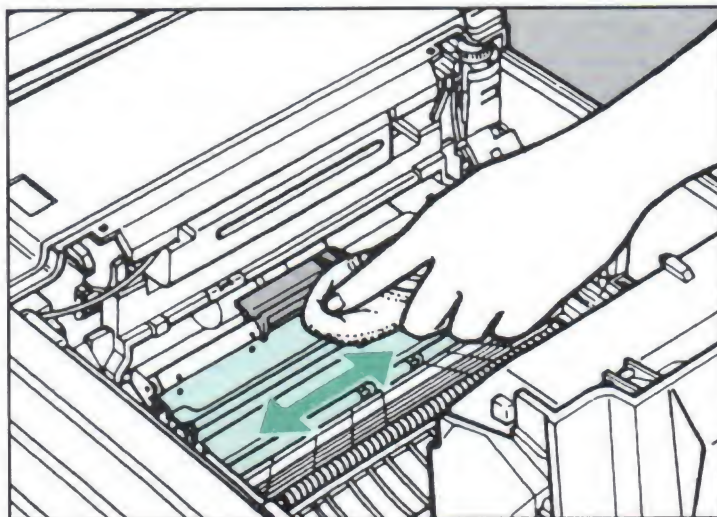

Figure 6-8. Cleaning the Transfer Guide Area
3. With a damp cloth (*use water only*), wipe off residue from the silver metal strip (see Figure 6-8 below).